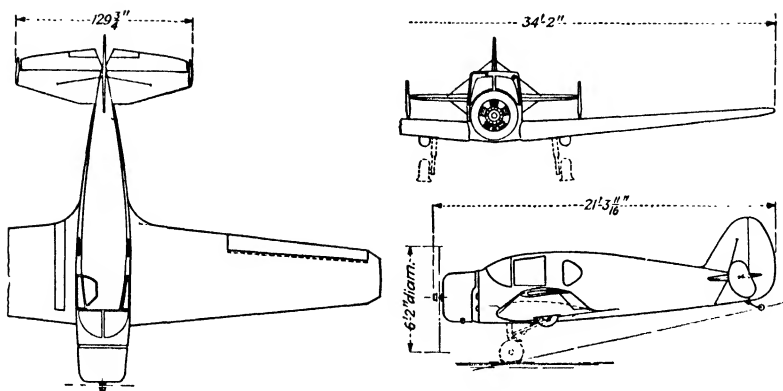

Fig. 19.—Bellanca Crusair low-wing monoplane. (Courtesy of Aviation.)
11. If 3 Cruisairs were placed wing tip to wing tip, how much room would they need? (See Fig. 19.)
12. If they were lined up propeller hub to rudder, how much room would 5 of these planes need (Fig. 19)?